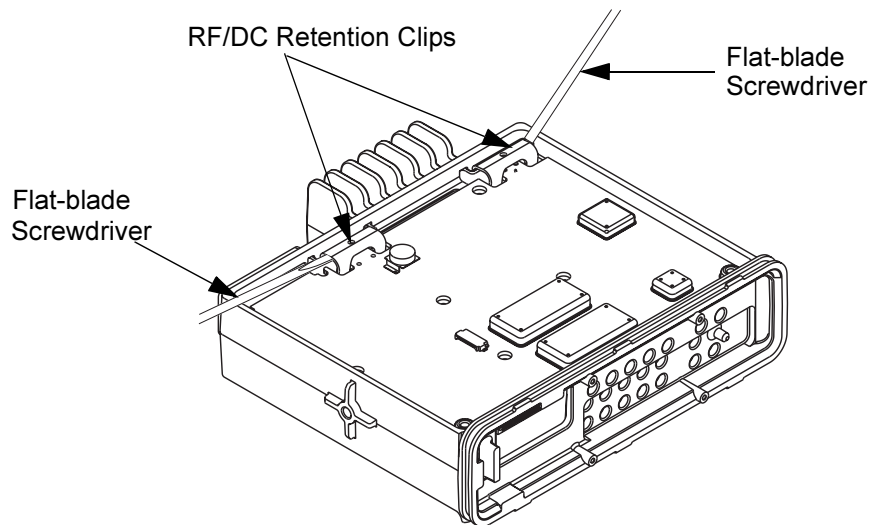

Figure 5-9. RF/DC Retention Clips Removal
4. Remove the RF/DC retention clips by gently prying them out with a flat-blade screwdriver as shown in Figure 5-9.